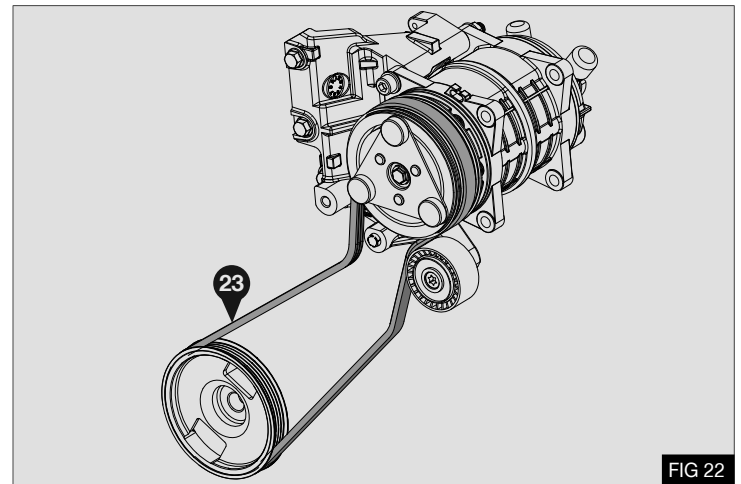

FIG 22
5. Position drive belt (23) as shown - Fig 22